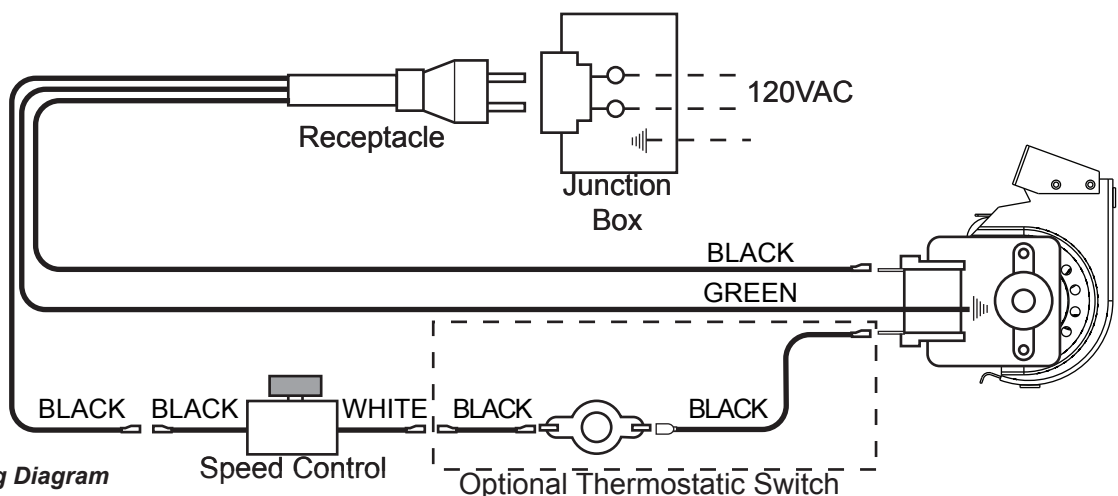

Figure 46 -
2. Connect the wire terminal from the remote receiver. This replaces the 15' wall switch connection to the switch. *Figure 46*
The junction box for the fan/blower systems has been factory installed. This system requires that 110-120V AC to be wired to the factory installed junction box before the fireplace is permanently installed. *Figure 46*